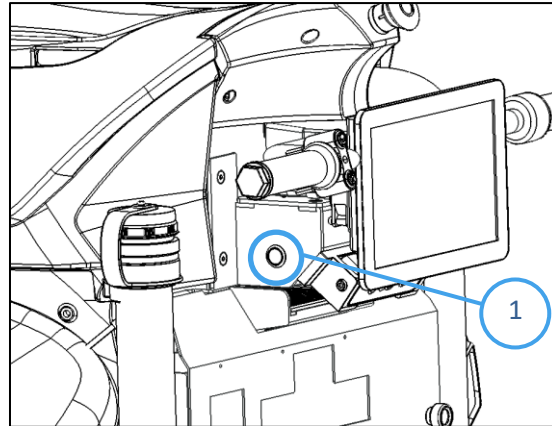

Fig. 2
Pressing the Reset Button (Fig. 2 - 1) will release the safety bumper (reset the emergency trigger) and the robot will return to a usable state.
2. Press the Reset Button (Fig. 2 - 1) to release the safety bumper and the robot will return to a usable state.